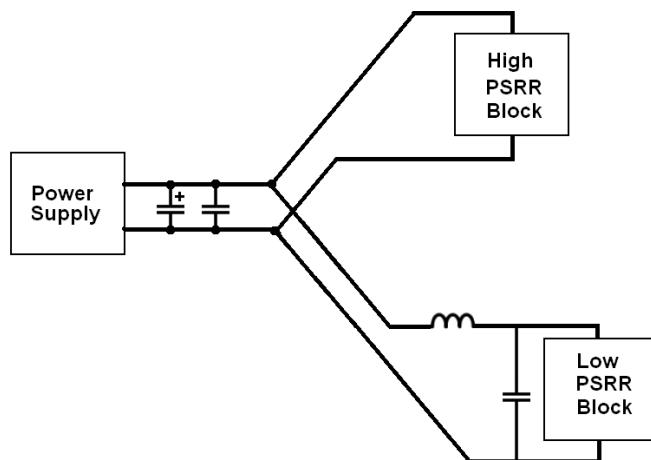

Fig. 3.1 Filtering of high and low PSRR blocks supply
Integrated circuits that require a clean power supply should be provided with an additional L-C filter, to avoid noise coupling through from other blocks of the circuit. An example of appropriate filtering for such a case is illustrated by figure 3.1
- (v) If a star distribution topology is required for crosstalk or EMC considerations, such as the PDN illustrated in fig. 3.1, each supply trace must have its own return path in order to fulfill the “small loop area” requirement